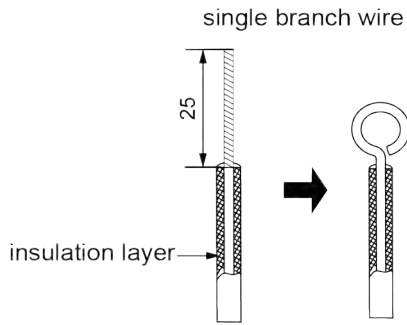

Fig.5.1.1
- (1) Connection of single branch wire (as shown in Fig.5.1.1).